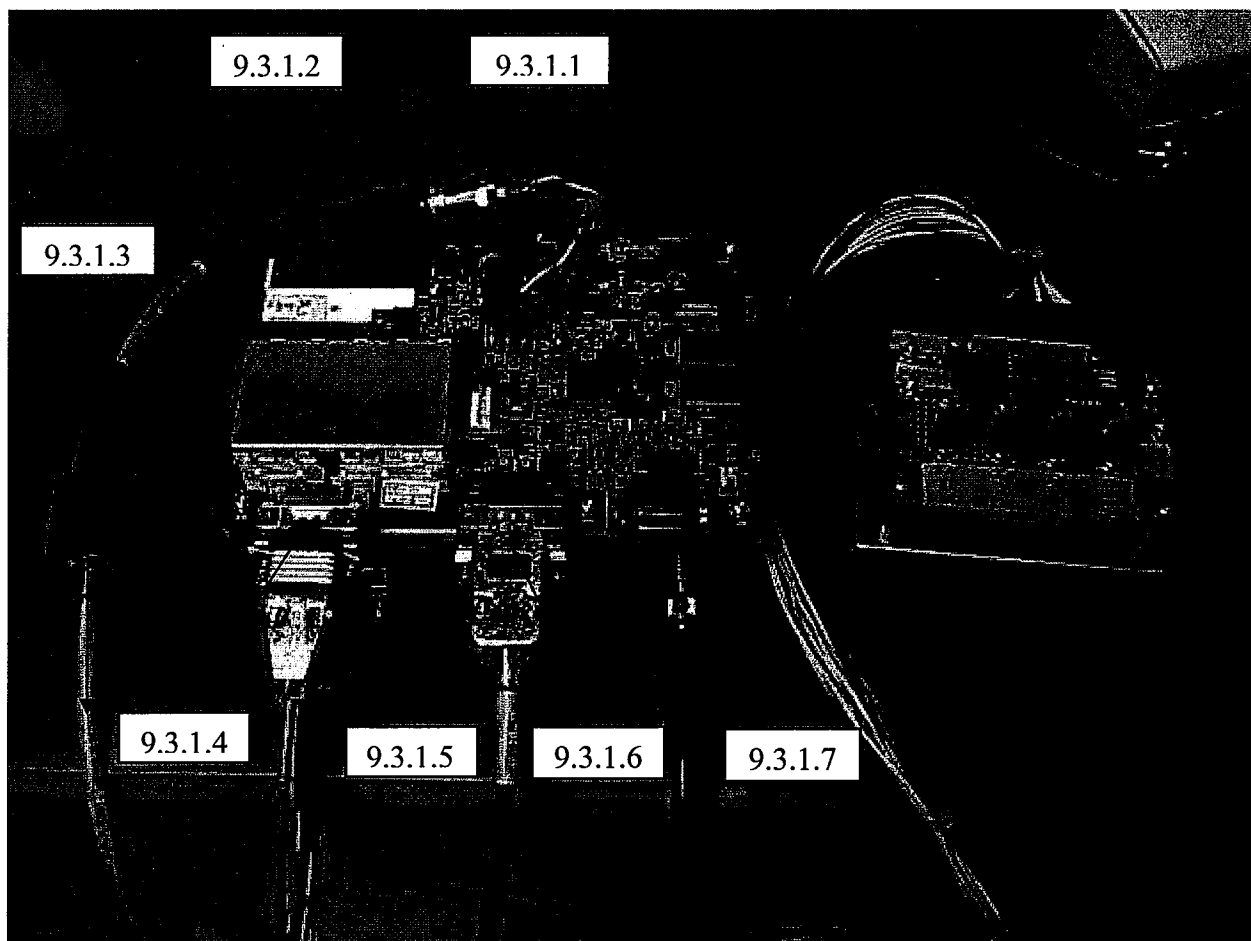

Figure 4
9.3.2 Refer to Figure 4 below for further details of connections.